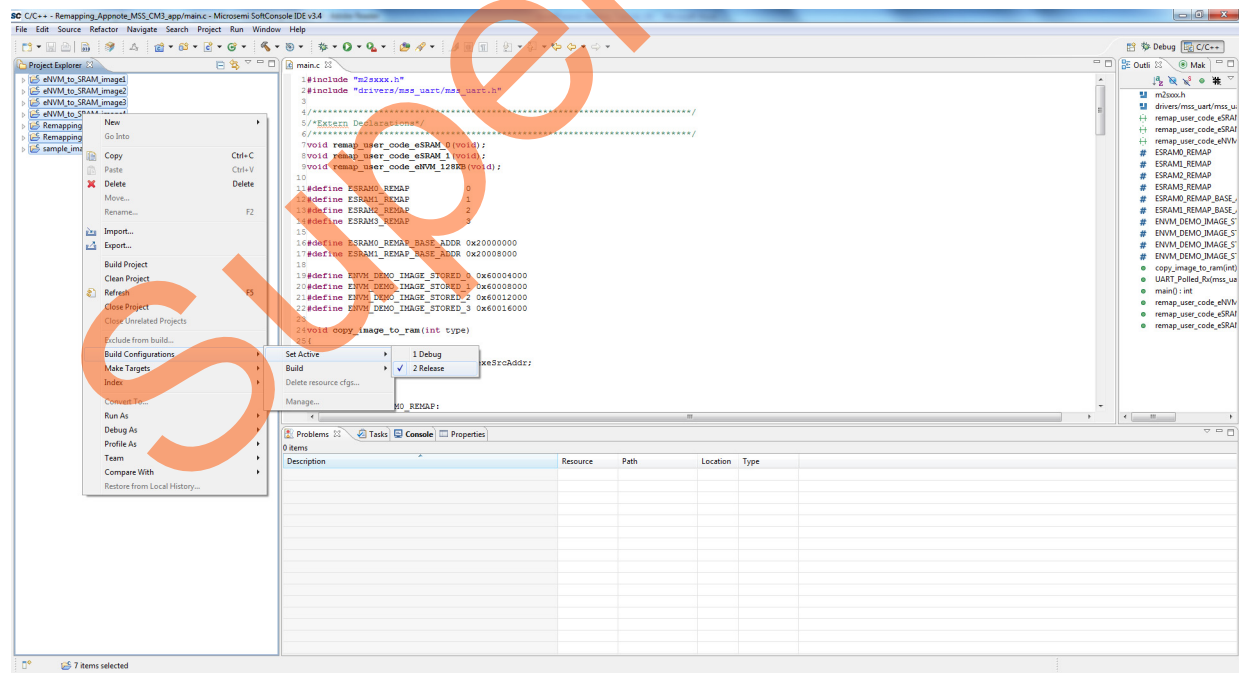

Figure 36 • Building Configuration
- Right-click both project names in the **Project Explorer** view and select **Build Configurations > Set Active > Release** as shown in Figure 36.